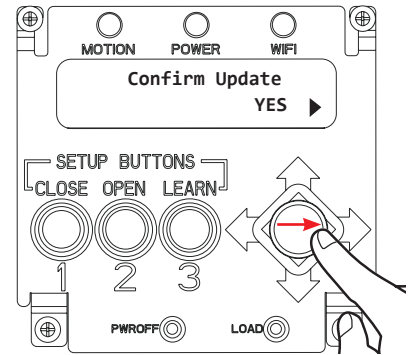

Figure 54
6. Confirm the update by pressing joystick to the right. (Figure 54)